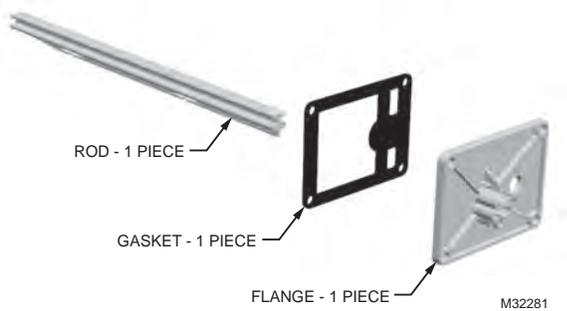

Fig. 2. Duct Mounting Kit (Part No. 50053060-001).
The kit contains a rod to hold the sensor in the duct, a flange to secure the sensor rod to the duct wall and fill the hole and a gasket to prevent air from leaking through the duct wall. There are five (5) kits in a bag assembly. See Fig. 2.